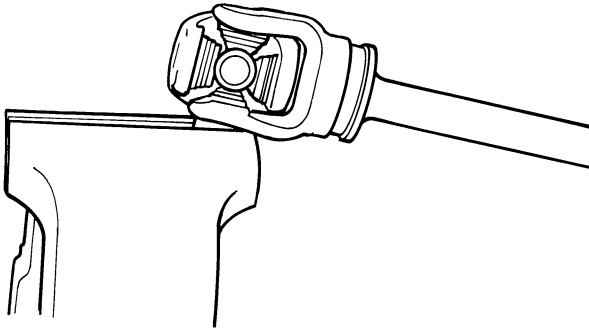

Figure 8
7. Place the protruding portion of the bearing cup in the vise and just snug the jaws so the bearing cup will not be distorted. Use a prying motion on the yoke to work the bearing cup out of the yoke as shown in Figure 8.